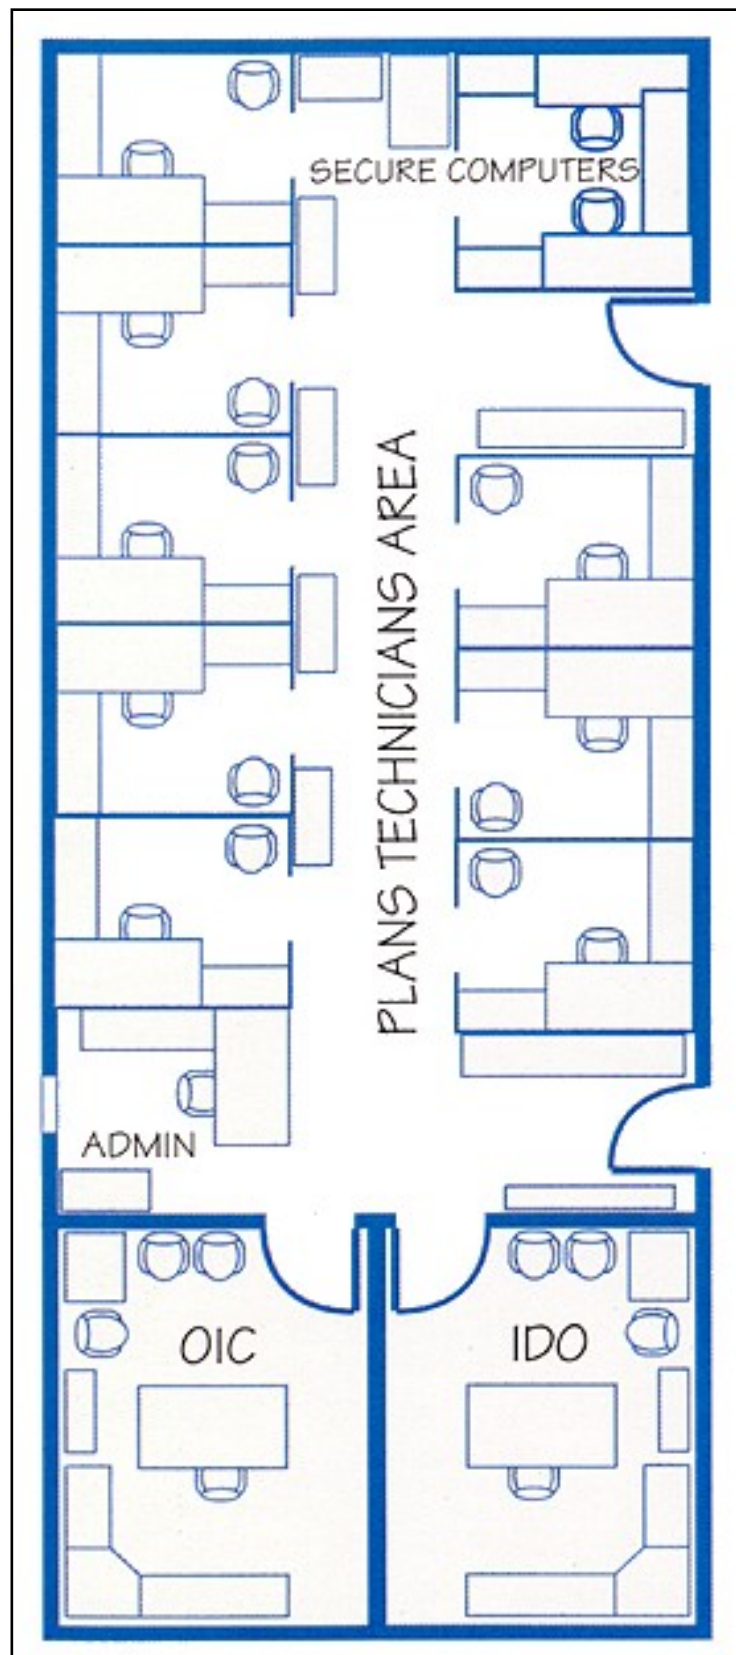

Figure 3-B: Logistics Plans and Programs Plan
**a. OIC's Office** - Used for day-to-day operations, counseling sessions, and small meetings (See Figure 3-B).
**b. Installation Deployment Officer's (IDO's) Office** - For day-to-day management of the wing's deployment program, counseling sessions, and small meetings (See Figure 3-B).
Planning, and Execution System (COMPES) and Global Decision Support System (GDSS) access (See Figure 3-B).